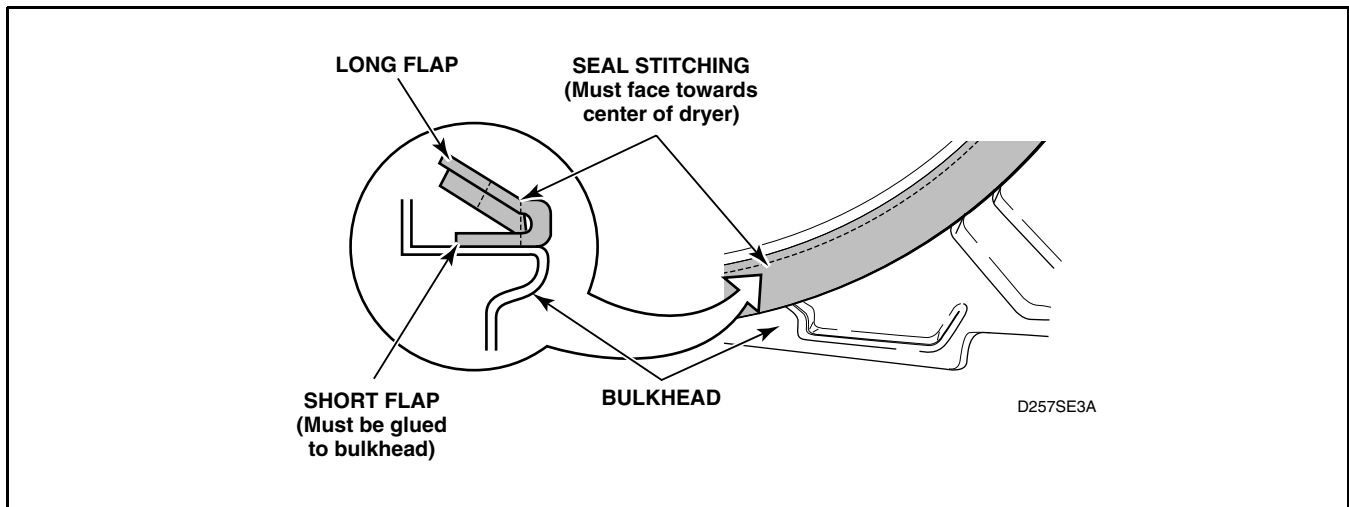

Figure 36
i. Front Cylinder Seal (*Figure 36*)
- (1) The stitching on the seal must face towards the dryer center. Refer to *Figure 36*.
- (2) The short flap, shown in *Figure 36*, must be glued to the bulkhead and the long flap left loose.